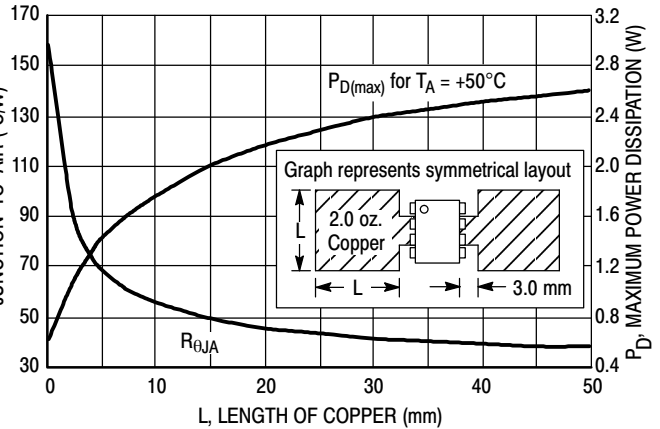

Figure 9. SOP-8 Thermal Resistance and Maximum Power Dissipation versus P.C.B. Copper Length
- SOIC-8 Junction-to-Ambient Thermal Resistance is for minimum recommended pad size. Refer to Figure 9 for Thermal Resistance variation versus pad size.